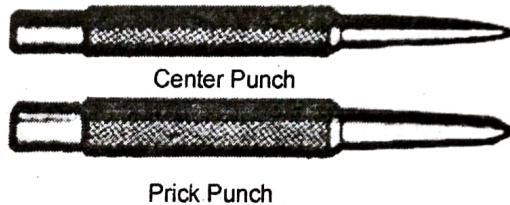

Fig. 6.
7. Punch: used for marking out work, locating centers etc Fig. 6.